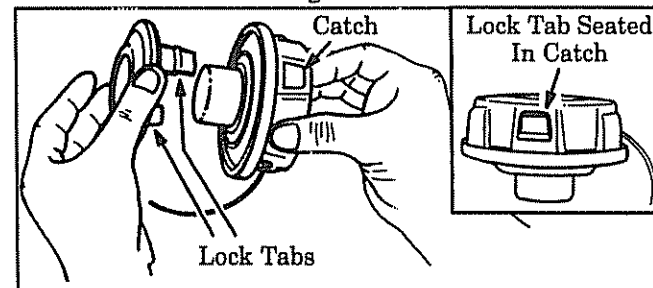

Figure 14
- h. Align the lock tabs on the cover over the catches on the hub. Push the cover down onto the hub until the parts snap together. Figure 14 .
- i. Check to make sure the lock tabs are properly fastened as shown in Figure 14 (inset).